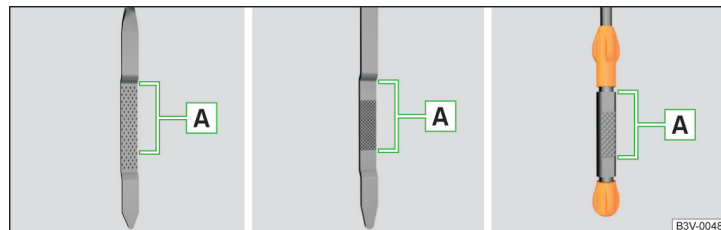

Fig. 318 Dipstick variants
The oil level must be in range **A** » Fig. 318. If the oil level is below the range **A**, refill the oil.
- The oil level must never fall outside range **A** » Fig. 318 - otherwise there is a risk of damaging the engine and the exhaust system.